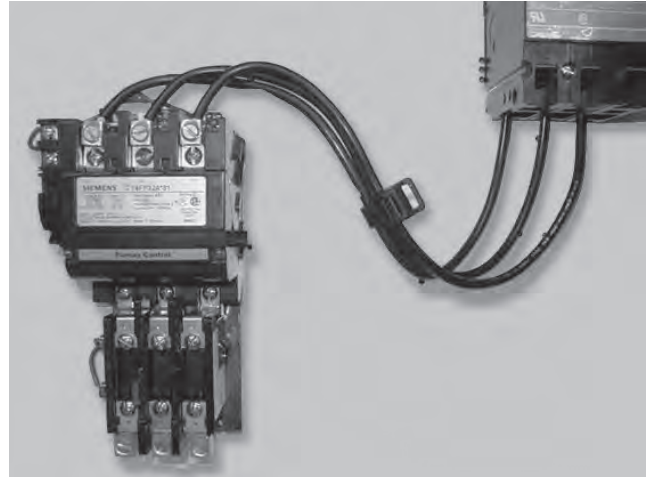

Figure 2
Locate the breaker over the barrier making sure the toggle on the circuit breaker is in the notch on the pivot assembly and secure using (4) #8 – 32 x 4.06" screws and (4) 3/8 x 13/16" flat washers (supplied). Torque screws to 20 in-lbs. Remove adhesive tape from barrier. (See Figure 2)